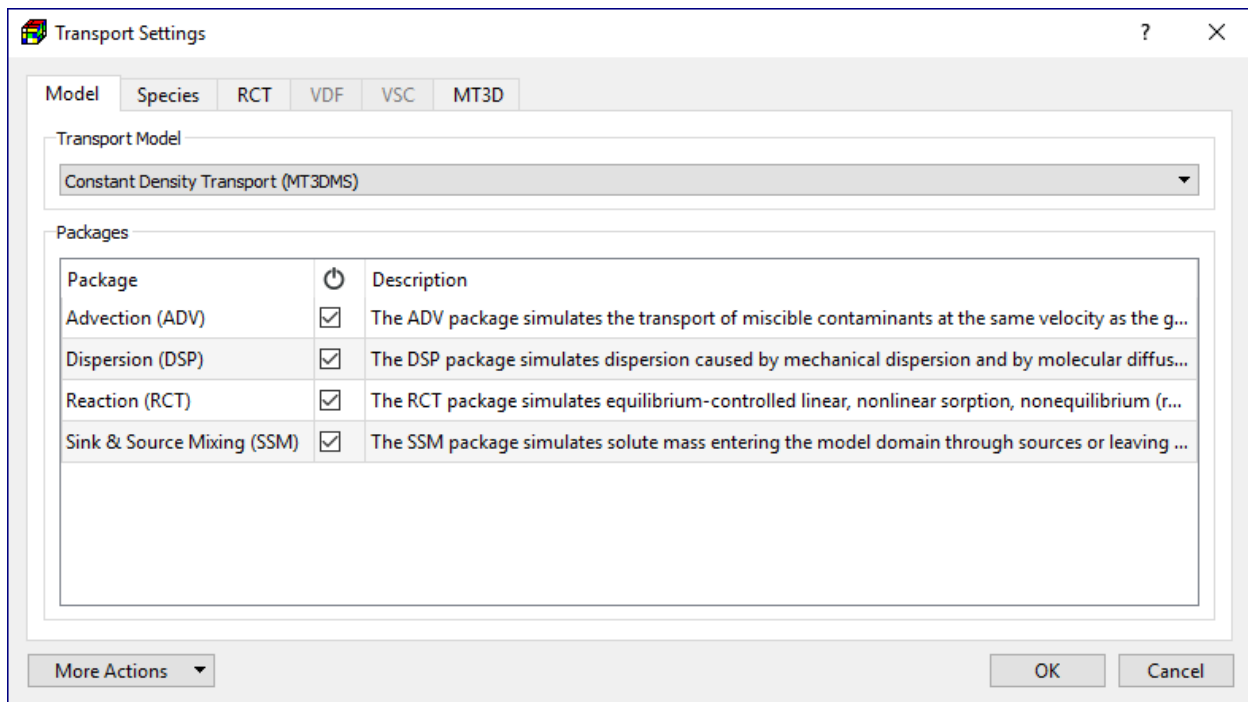

Figure 22. The Transport Settings dialog box
1. Select Models > MT3D/SEAWAT > Settings to open the Transport Settings dialog box (Figure 22). We will use the transport model MT3DMS and its packages as shown in the figure.